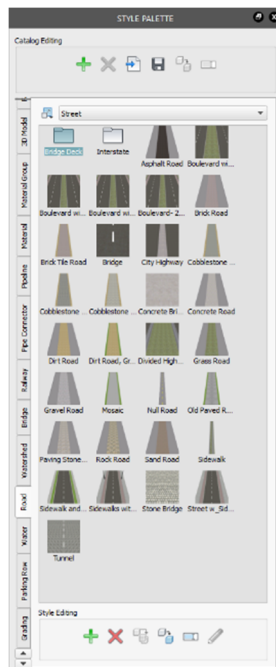
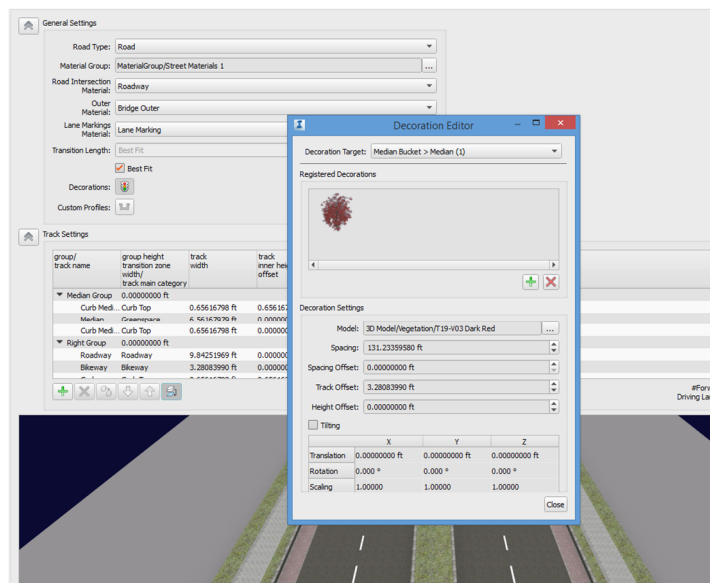

FIGURE 37
FIGURE 38
Click the **I** icon in the top left corner of the screen. On the fly out, click the rubik's cube icon to open the Create and Manage tools. Select style palette icon, the style palette will open on the right of the screen, select the road tab (figure 37). The road tab houses all the current Out of the Box (OOTB) styles. Select the boulevard with palms road style, click the copy button at the bottom of the catalog (make sure to select the copy to current catalog not the copy to another catalog button), change the name of the copied style to boulevard – 2-Lane, click enter, click enter a second time or click the edit pencil button at the bottom of the catalog to open the Configure Style dialog box (figure 38). On the configure style dialog box click the decorations button, on the Decoration Editor (figure 38 inner image), select the decoration target dropdown, select Median Bucket>Median from the Decoration target drop down. Select the red X to remove the tree decoration. Select the right bucket>greenspace (1) and click the red X to remove the light poles. Click close, click ok and drag and drop that style to the existing road to update it.